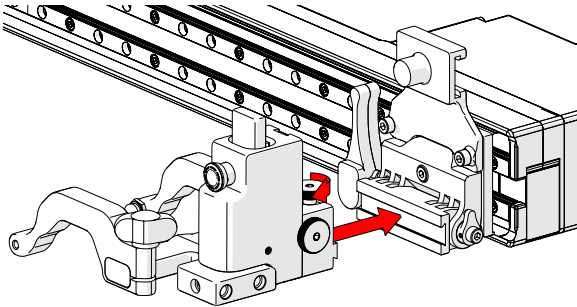

Fig. 111 - Mount probe holder to carrier
1. Loosen the probe holder adjustment knob (*Fig. 111*) and mount the heavy duty vertical probe holder's dovetail jaw to the carrier.